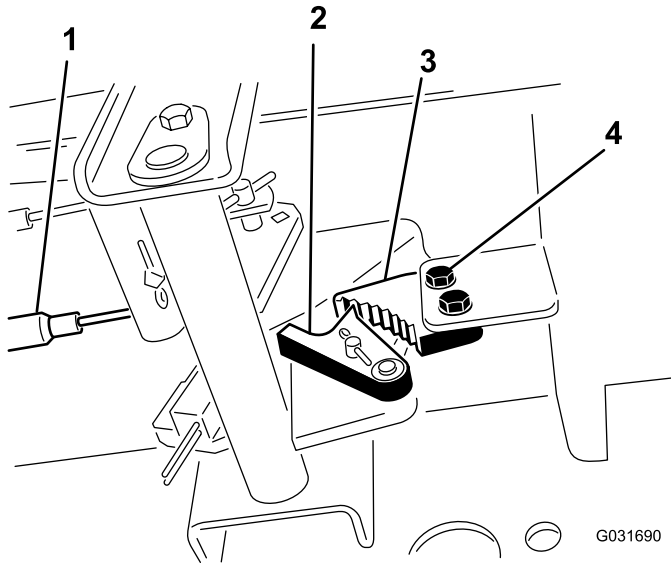

Figure 55
1. Loosen the 2 screws securing the parking-brake pawl to the frame (Figure 55).
2. Press the parking-brake pedal forward until the brake detent completely engages on the brake pawl (Figure 55).